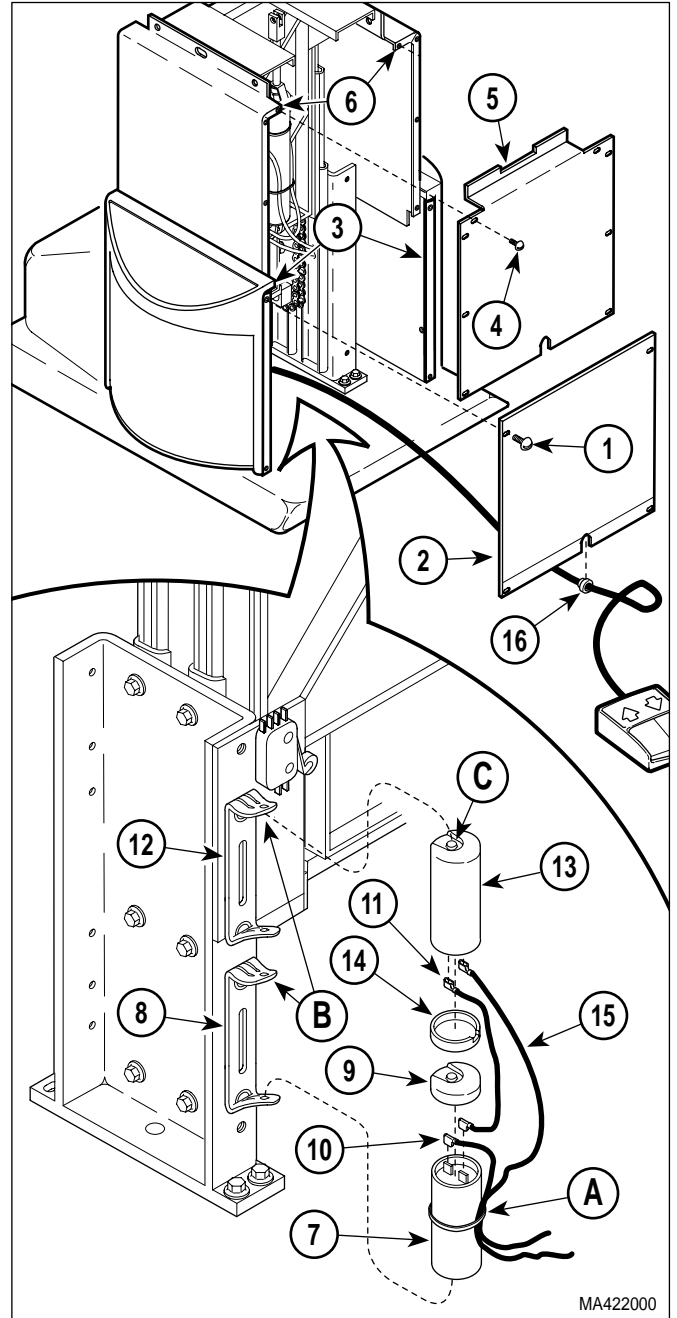

Figure 4-24. Capacitors Removal / Installation
- (1) Unplug power cord from wall outlet.
- (2) Remove four screws (1, Figure 4-24) and front outer shroud (2) from left and right hand outer shrouds (3).
- (3) If necessary to gain access to capacitors, remove eight screws (4) and front inner shroud (5) from left and right hand inner shrouds (6).
- (4) Cut cable tie (A) securing wires to capacitor (7).
- (5) Using a screwdriver, pry tab (B) of capacitor mounting bracket (8) upward and remove capacitor (7) from capacitor mounting bracket.
- (6) Remove capacitor cap (9) from capacitor (7).